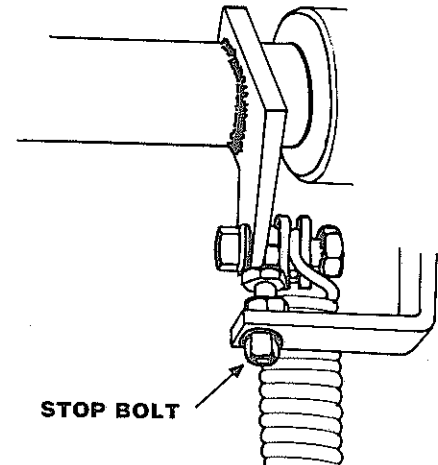

Fig. 24
4. Adjust the position of the twine fingers at the needle slots with the return stop bolts on each twine finger drive shaft, see Fig. 24. Remember to adjust both sides.